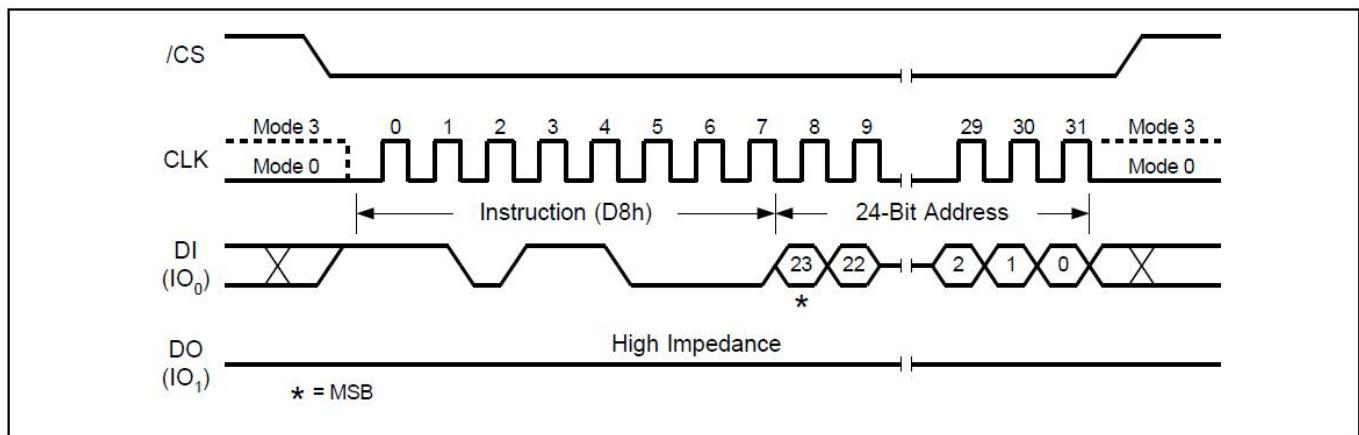

Figure 18. 64KB Block Erase Sequence Diagram
The Chip Erase command sequence: CS# goes low → sending Chip Erase command → CS# goes high. The command sequence is shown in Figure18. CS# must be driven high after the eighth bit of the command code has been latched in; otherwise the Chip Erase command is not executed. As soon as CS# is driven high, the self-timed Chip Erase cycle (whose duration is  $T_{CE}$ ) is initiated. While the Chip Erase cycle is in progress, the Status Register may be read to check the value of the Write in Progress (BUSY) bit. The Write in Progress (BUSY) bit is 1 during the self-timed Chip Erase cycle, and is 0 when it is completed. At some unspecified time before the cycle is completed, the Write Enable Latch (WEL) bit is reset. The Chip Erase (CE) command is executed, if the Block Protect (BP2, BP1, and BP0) bits are 0 and CMP=0 or the Block Protect (BP2, BP1, and BP0) bits are 1 and CMP=1.